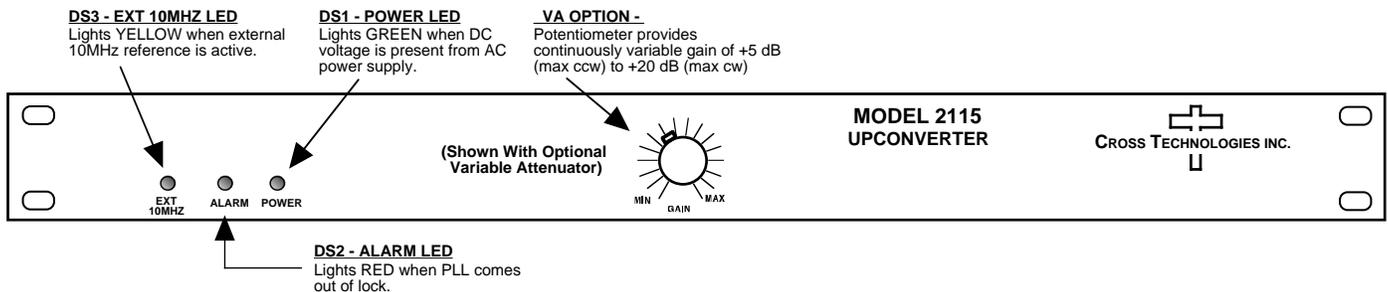

FIGURE 2.2 2115-109# Front Panel Controls and Indicators
4. Be sure DS1 (green, DC Power) is on and DS2 (red, Alarm) is off (Figure 2.2).
7. If EXT is selected or AUTO is selected and there is a 10MHz, +3 dBm signal at J2, check that DS3 (yellow, Ext 10MHZ) is on (Figure 2.2).